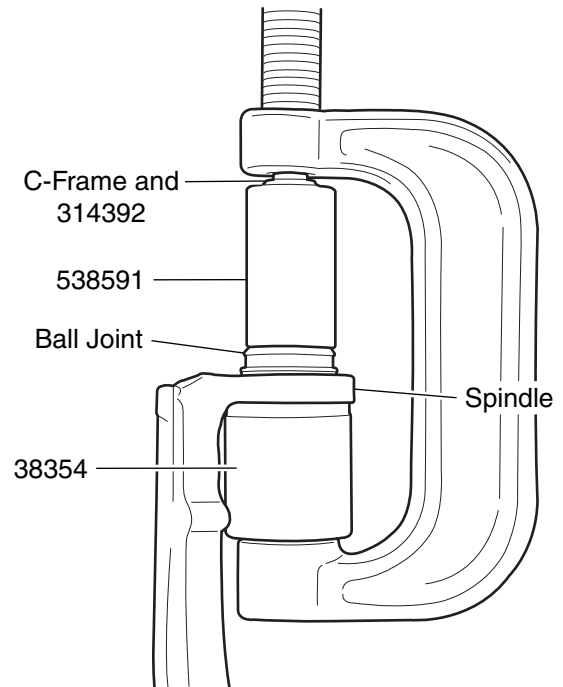

Figure 1. Ball Joint Removal
4. Position 38354, 314392 and the C-Frame as shown in Figure 1.